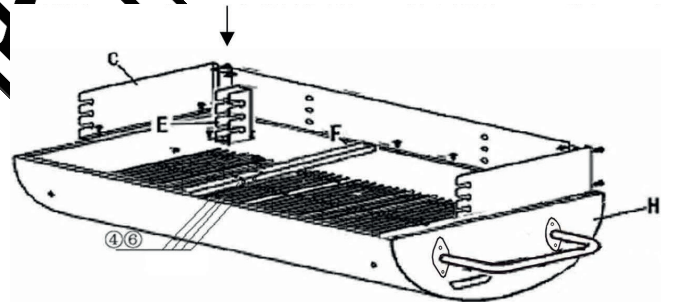

Fig. 6
8. Secure the grill holder (E) to the grill support bar (F) using bolts (4) and nuts (6). **(Fig. 6)**